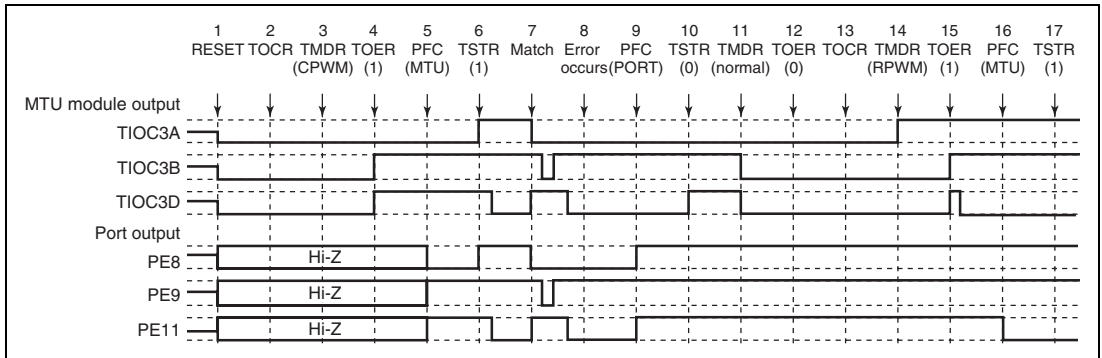

**Figure 11.109 Error Occurrence in Complementary PWM Mode, Recovery in Reset-Synchronous PWM Mode**
**Operation when Error Occurs during Complementary PWM Mode Operation, and Operation is Restarted in Reset-Synchronous PWM Mode:** Figure 11.109 shows an explanatory diagram of the case where an error occurs in complementary PWM mode and operation is restarted in reset-synchronous PWM mode.